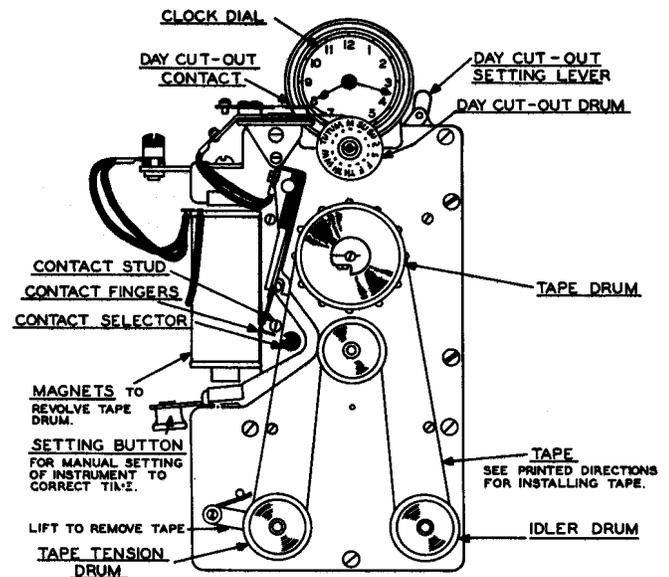

Fig. 2 — Stromberg Program Timer
5.C2 In general, only minor maintenance should be done in the field such as correcting the time of day or setting the day cutout drum. When major repairs are required, the program instrument should be returned to the manufacturer. (See Fig. 2.)
5.06 Slip tape between contact stud and contact selector, lining up time on tape with the pilot dial. Fit over pins of tape drum and thread over spools as indicated in Fig. 2, the latter being over the tension drum, which must be pressed up to allow tape to slip on.